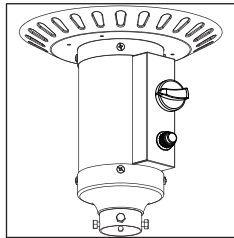

Figure 2
4. Turn the control knob to LOW (minimum) and leave it there for 5 minutes or more before turning the knob to the desired temperature setting. (Figure 2)